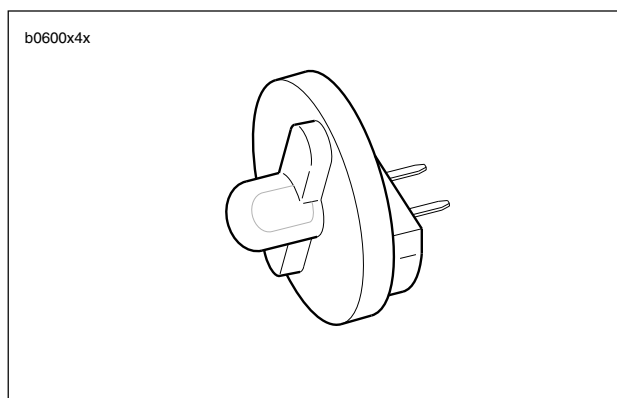

Figure 4-19. Injector Test Light (Part No. HD-34730-2C)
6. Use injector test light (Part No. HD-34730-2C) as shown in Figure 4-19.